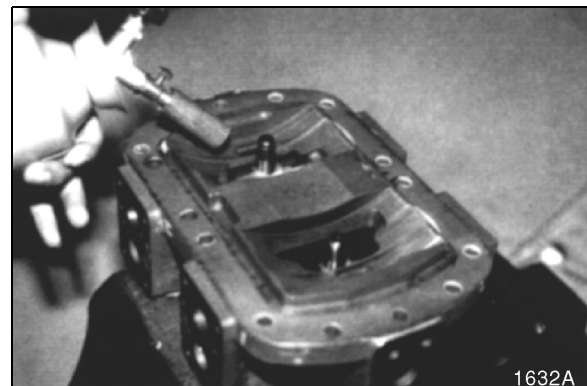

Figure 39
11. Heat piston rod slightly with burner. See Figure 39.